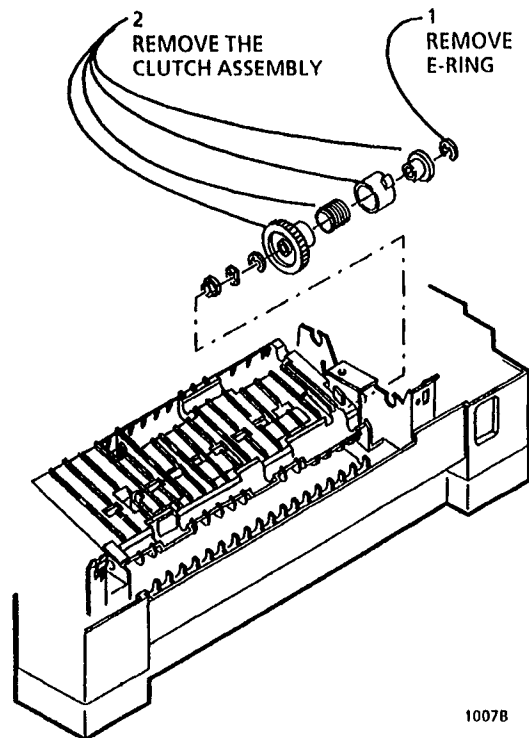

Figure 1. Removing the Paper Feed Clutch
2. (Figure 1): Remove the Paper Feed Clutch.